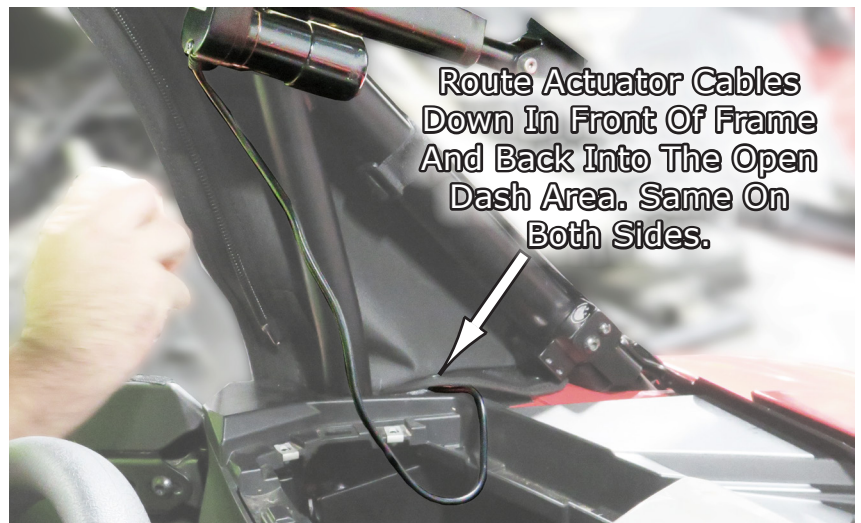

Fig.19
19. Now route the Actuator cable down thru the outside of the dash area as shown in **Fig.19**, for both sides, and feed it back thru to the open dash areas where you removed the panels from. This is where the Switch Harness will meet the Actuator cables to connect, in the following steps.